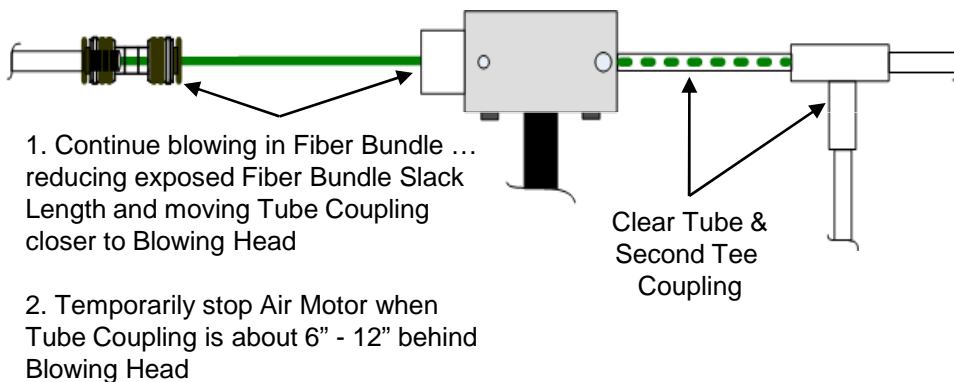

Figure 7A
9.6 **Key Step.** Blowing Head #2 Operator closes Motor Rate Control Valve and stops fiber bundle movement when Tube Coupling is about 1 foot behind back of Blowing Head #2. **See Fig. 7A.**